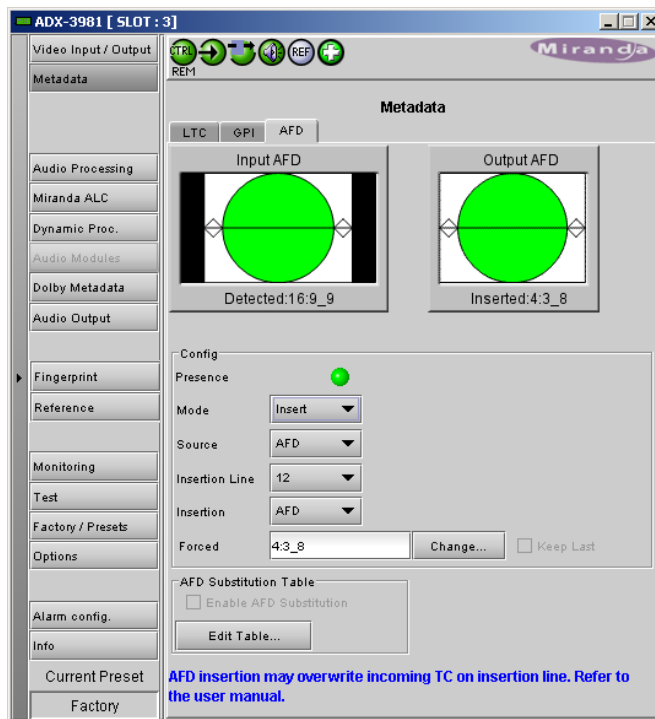

Figure 5.9 Metadata - AFD tab
- See Figure 5.9 for an example.